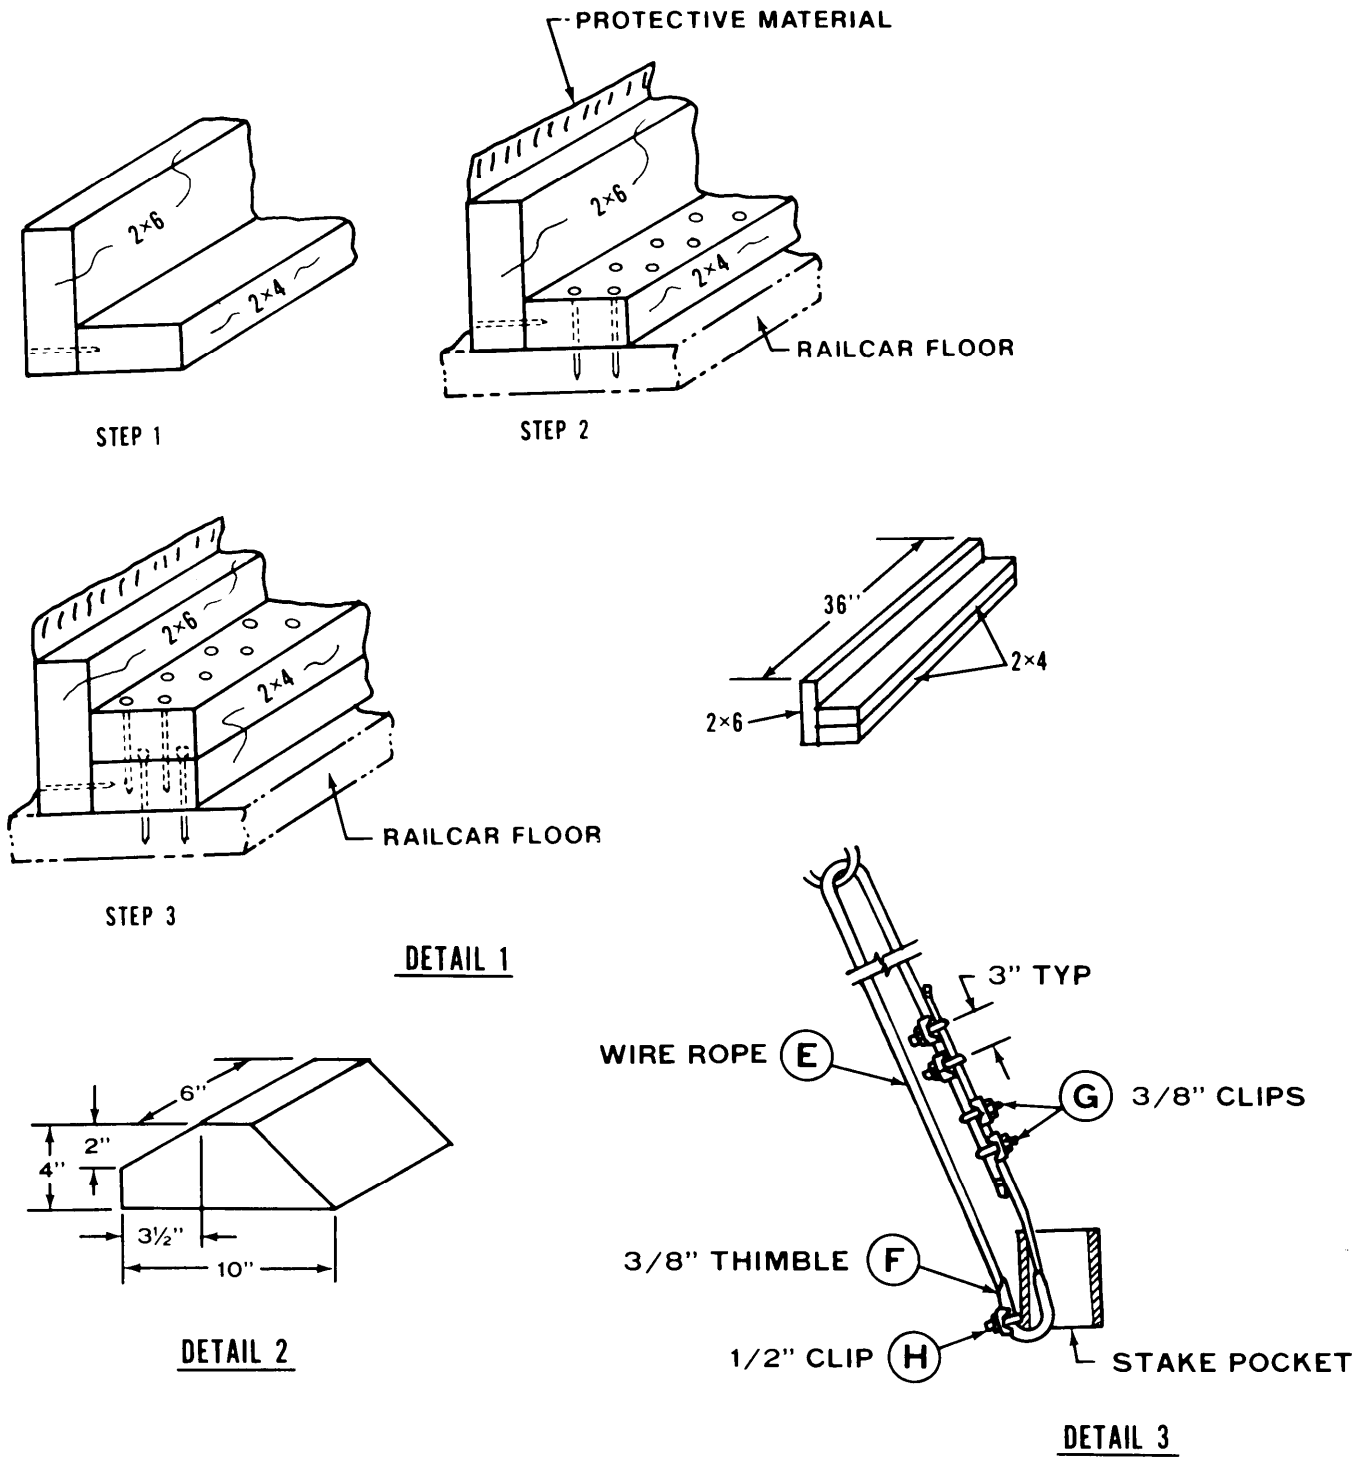

Figure 7-2. Blocking and tiedown detail diagram.
b. Figure 7-1 shows the load on a general-purpose flatcar. Figure 7-2 provides detailed instructions for blocking and tiedown. Table 7-1 provides a bill of materials, and table 7-2 presents application of those materials for securing forklifts on general-purpose flatcars.